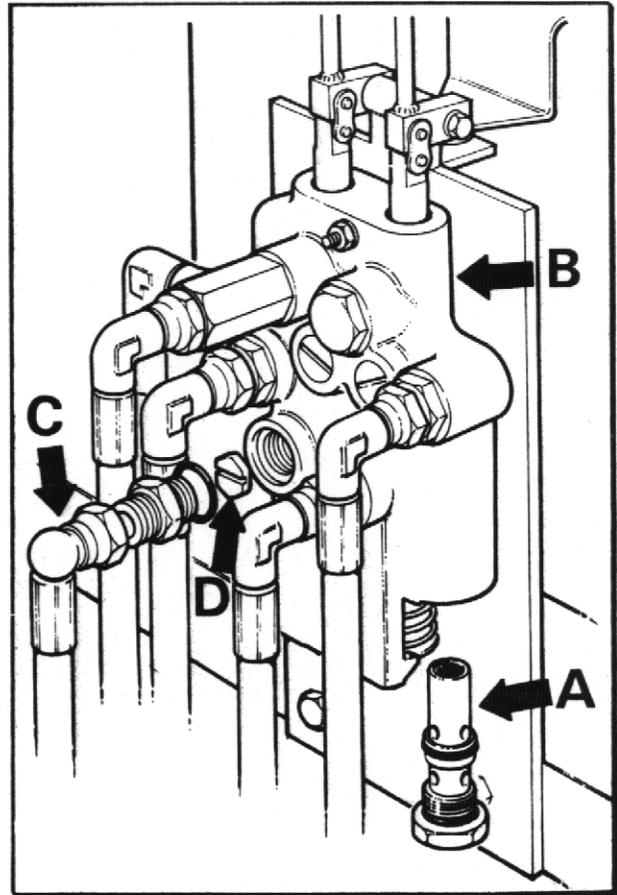

FIG.7
4. Remove relief valve cartridge (A) (hexagon head) from the bottom of the control valve (B) (See Fig. 7) and replace with a new one.
5. Remove hose adaptor (C) from control valve (See Fig. 7), remove hexagonal orifice plate (D) and wash in white spirit. Dry using moisture-free compressed air. DO NOT poke wire etc., into the orifice. Re-fit plate and hose adaptor with slot of orifice plate facing outwards.